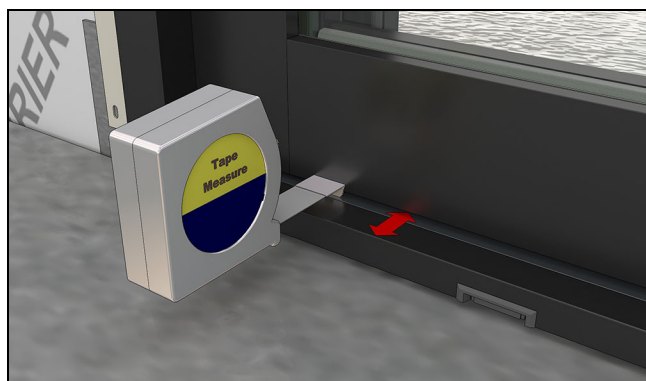
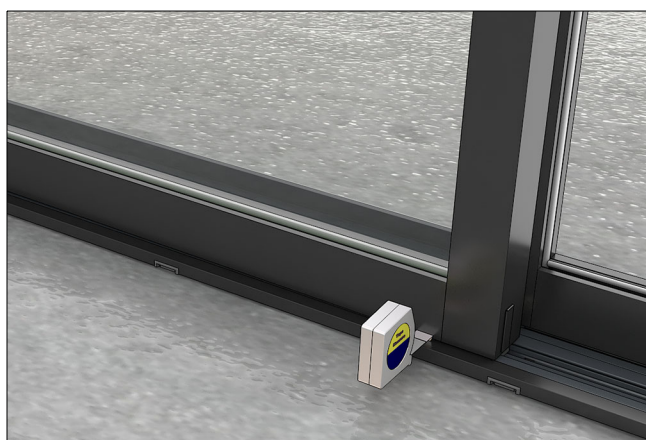

Figure 80
Figure 81
6. Measure from the edge of the stationary panel near the jamb. Move the meeting stile end of the stationary panel until the distance is the equal. See Figure 80 and Figure 81.